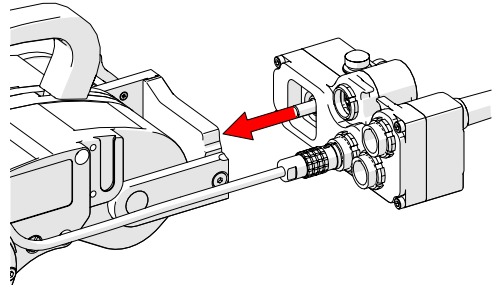

Fig. 124 - Align with drive module mount
5. Align the umbilical to the umbilical mount of the drive module (Fig. 124).